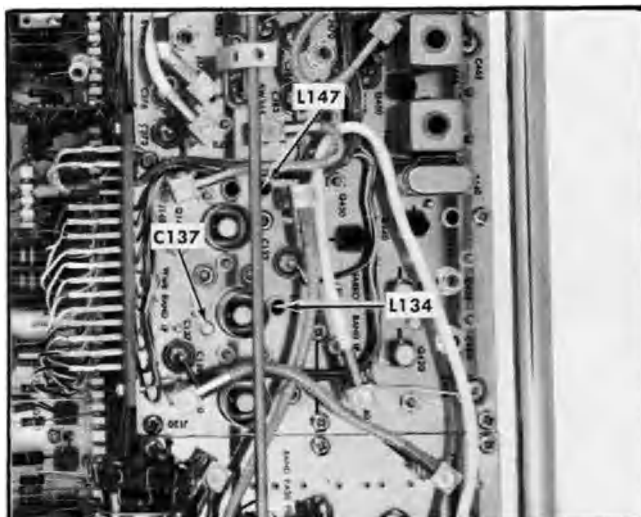

Fig. 5-23. Wide band IF amplifier adjustments for response flatness.
k. ADJUST—The 65 MHz trap, L147 (Fig. 5-23) for minimum response to the 65 MHz signal. This will be indicated by a decrease in the vertical displacement of the plug-in oscilloscope trace.
p. If the response flatness is not within tolerance, adjust C137 and L134 (Fig. 5-23) for maximum sensitivity and analyzer response flatness. Adjusting C137 will usually produce a noticeable effect on the response slope. Adjust L134 for optimum sensitivity at the high frequency portion of the IF response.